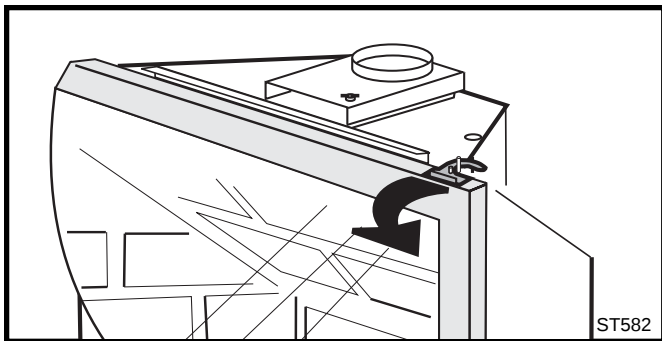

Fig. 37 Release the latches to release the glass frame.
2. Swing open the swiveling latches at the top left and right corners of the glass frame. (Page 20, Fig. 37)
Replace glass only with CFM Specialty Home Products approved parts. Refer to Page 22 for Replacement Parts. Refer to Figure 37 and previous instructions for removal of the damaged glass frame.